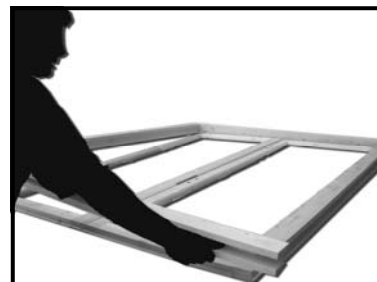

Fig C2
2. Lay the outer frame in position (fig C2).
1. Close the hinges and lay the frame assembly over the doors (fig C2).